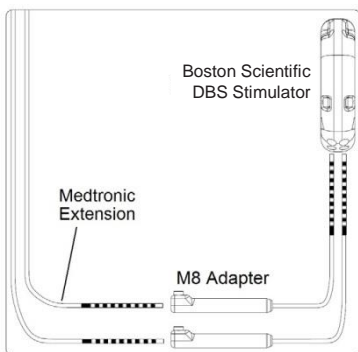

Figure 2: Connection of Vercise M8 Adapters to Medtronic lead extensions and Boston Scientific DBS Stimulator.
7. Insert the proximal end of the Medtronic lead extension into the Vercise M8 Adapter until the extension reaches the end stop of the Adapter; use one Vercise M8 Adapter for each Medtronic lead extension (Figure 2).